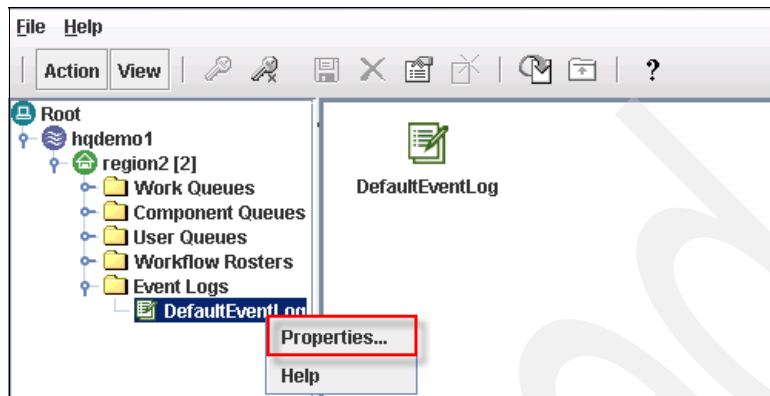

Figure 7-37 Selecting Event Logs
11. As shown in Figure 7-37, select **Event Logs**. Right-click **DefaultEventLog** and select **Properties**.